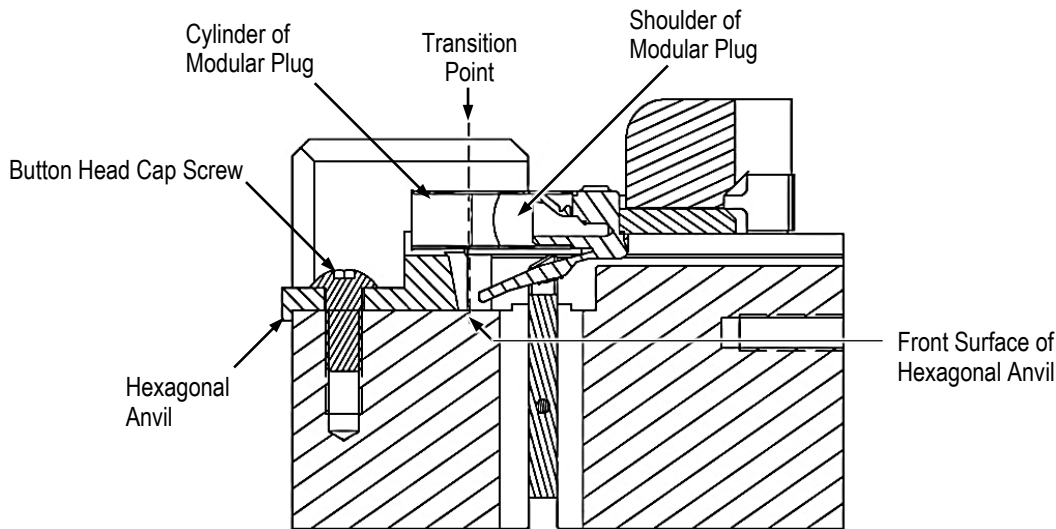

Figure 4
- b. Loosen the button head cap screw on the hexagonal anvil. See Figure 4.
When the anvil is positioned properly, the front surface of the anvil is in the same vertical plane as the transition point between the modular plug cylinder and shoulder as shown in Figure 4.